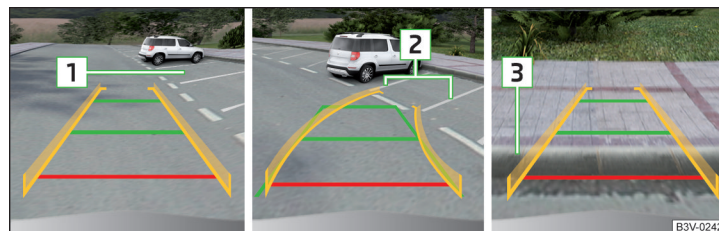

Fig. 254 Screen display
- At the selected parking space **1** » Fig. 254 slowly drive past and stop the vehicle.